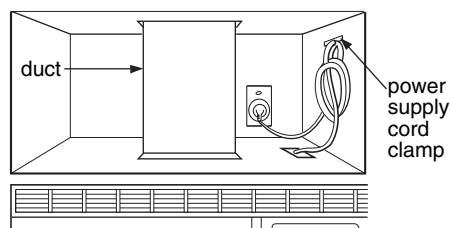

Figure 29
- ROOF VENTED INSTALLATION:** Install ductwork through the vent opening in the upper cabinet. Complete the venting system through the roof according to the method needed. See Figure 29. See PREPARE THE VENTING SYSTEM, STEP 2 on the page 8. Use caulking to seal the exterior roof opening around the exhaust cap. See Figure 5 on page 8.
- Use the power supply cord clamp to bundle the power supply cord. Install the power supply cord clamp, using a screw as shown in Figure 29, to inside of the cabinet.